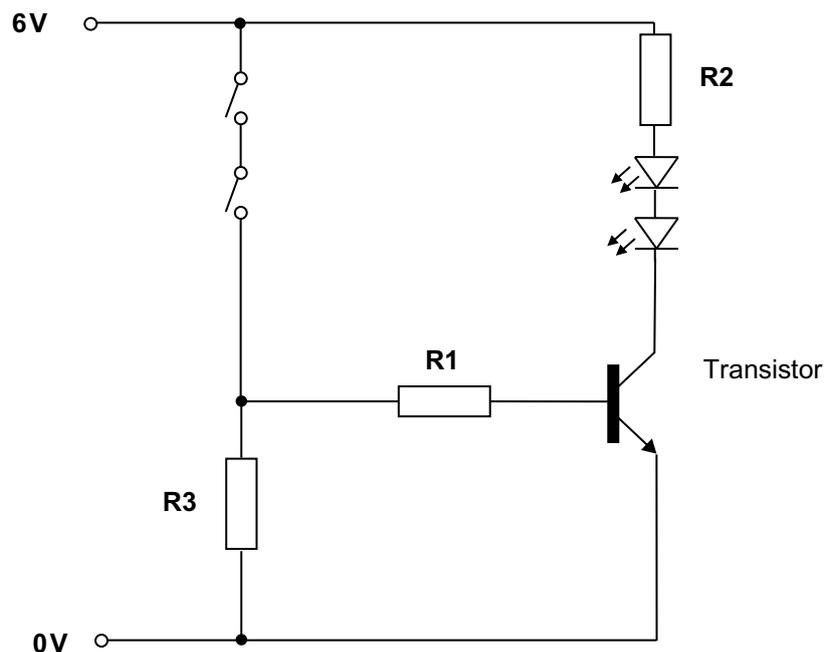

Fig. 9(b)
- (i) State the type of logic control achieved by the arrangement of the SPST switches in Fig. 9(b). [1]
- (ii) Describe the operation of the circuit shown in Fig. 9(b). [2]